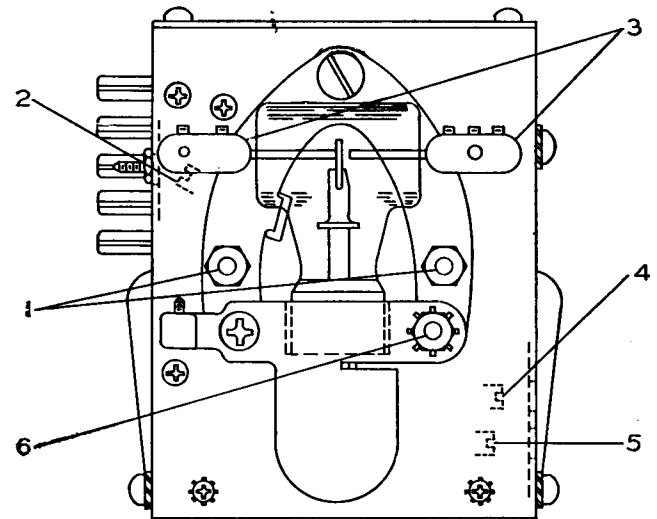

Figure 5-18. Keying Relay (K102) Adjustment
(2) 410 0008 00 (K102)
This relay has been provided with three adjusting screws. Refer to figure 5-18. The two adjusting screws located on the side of the relay opposite the multiterminal connector plug control the position and tension of the relay armature when the relay is unoperated. The lower adjusting screw, item 5, determines the position of the armature and the upper screw, item 4, determines the tension of the armature return spring. The tension of the armature return spring, as measured at the top of the bakelite strip should be between 23 ounces and 24 ounces.
This vacuum contact is mounted on the keying relay K102. The vacuum contact must be adjusted to operate properly when the relay is adjusted as described in the preceding paragraphs. The vacuum contact make and break action must occur between the operation of contact groups one and two of keying relay K102. Refer to figure 5-18. A single adjusting screw, Item 2, near the multiterminal connector plug permits the adjustment of the mounting yoke so that the movable contact operating arm will operate the arm to close the contact but will not apply enough pressure to damage the vacuum tube. To adjust the mounting yoke, loosen the two hexagon head screws, Item 1, and with the relay unoperated, rotate the adjusting screw, Item 2, in a direction that allows the movable contact within the vacuum tube to rest firmly against the fixed contact that is ordinarily connected to the RECEIVER terminal of the transmitter. When this adjustment has been completed, tighten the two hexagon head screws, Item 1, and apply voltage to the relay coil (Terminals 14 and 15 on the multiterminal connector plug) and, with the relay operated, check the position of the movable contact within the vacuum tube. The movable contact arm should rest firmly against the fixed contact that is ordinarily connected to the COND. terminal on the transmitter. The contact should be firm but the movable arm should not apply enough pressure to the fixed arm to endanger the vacuum seal. The contact pressure must not exceed 23.45 ounces measured at a point  $\frac{3}{4}$  inch from the diaphragm. If the movable contact is applying too much pressure to the fixed contact when the relay is operated, readjust the lower adjusting screw, Item 5, on the side of keying relay K102, opposite the connector plug, to reduce the pressure. If the movable contact is applying too much pressure to the fixed contact when the relay is unoperated, readjust (Item 4).